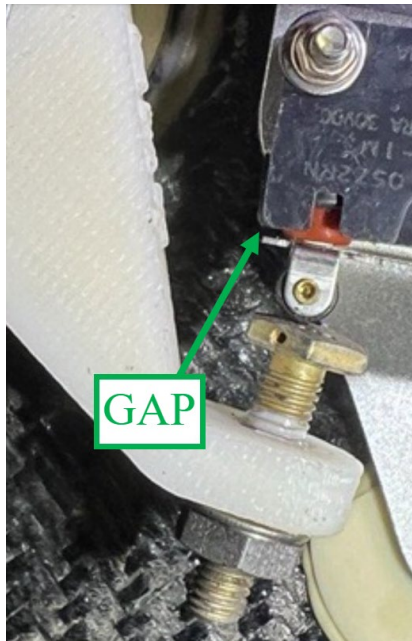

Figure 6. Switch Gap Measurement
12. Using pin gauges or feeler gauges, reach through the LH headlight opening to inspect the gap between the “extend” or “BOT” switch arm and the switch body just forward of the switch plunger (see **Figure 6**).